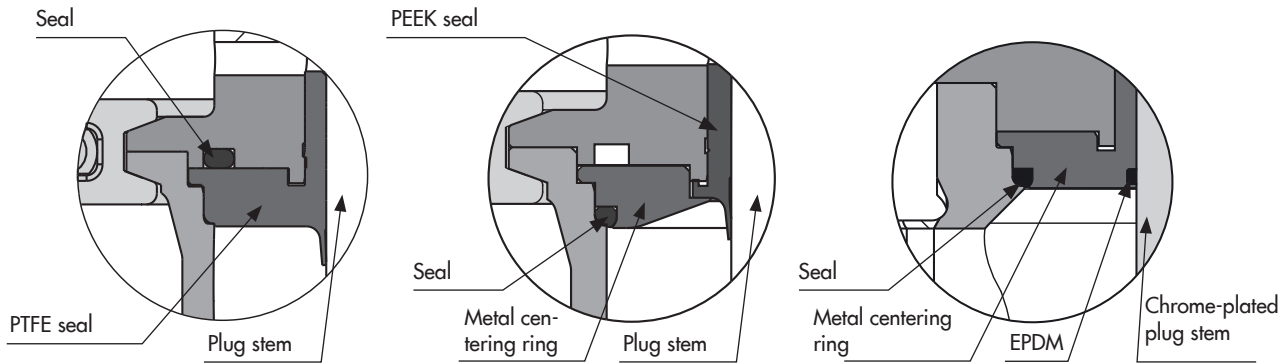

Fig. 11: Overview of seal systems in detailed view
- **Three plug stem seal systems: PTFE** (for most standard applications), **PEEK and anti-crystallizing seal** (metal centering ring with O-ring and chrome-plated plug stem). See Fig. 11)
Principle of operation (Fig. 3 to Fig. 11)